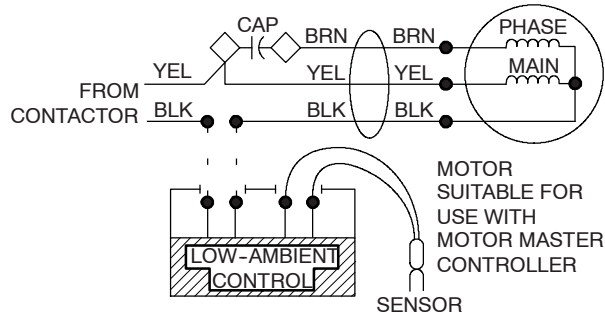

Fig. 7- Power Wiring for 208-v, 230-v, and 460-v Condensing Units
MotorMaster® must be wired in series with fan motor. (See Fig. 7.) Power wiring must comply with all local codes and NEC requirements.
4. Bypass MotorMaster® by connecting black wire from unit contactor directly to black fan motor lead. (See Fig. 7 or 8 and unit wiring label.)